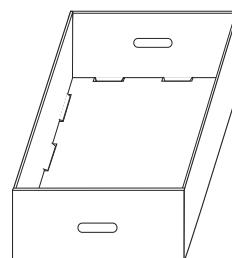

Figure 7
7. Box is assembled. (See Figure 7)